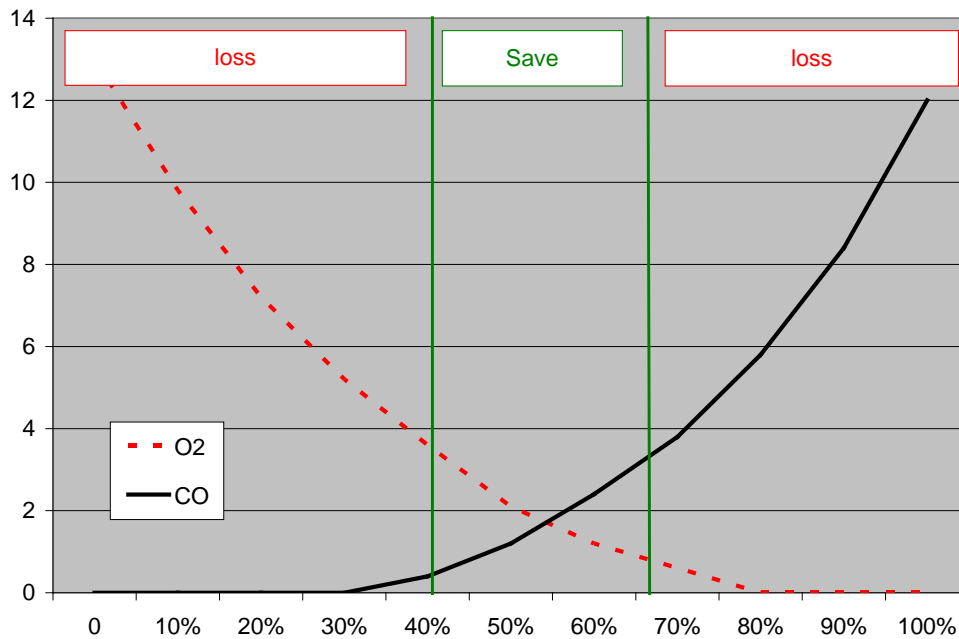

Figure 1
Boiler fuel budgets can be reduced with an oxygen trim system. As shown in Figure 1, the economical amount of combustion air is found in a “green” zone between unburned fuel (CO) and excess air (O₂). Not only can operating in this “green” zone save money, it can also reduce smoke stack emissions.
Oxygen losses decrease when less excess air is introduced, however unburned carbon in the form of CO increases with less excess air. There is green zone as shown in Figure 1 where the loss from both O₂ and CO is minimized.
It is important for the process control engineer to use a stack gas analyzer and collect the data for his specific boiler, burners, and fuel. Curves like Figures 1, 3, 4, and 5 need to be created at several steam load points throughout the firing range from minimum to maximum. The author recommends at least ten load points tested both going up in load and down in load. Testing should be done after several days of firing to ensure that the entire thermal mass of the boiler is up to operating temperature. Once the raw data is collected from the field test, the various curves can be plotted. The process control engineer can then illustrate the data and create equations. He can also develop the boiler oxygen trim control loop by using SAMA symbols and fill in the various blocks with the equations.